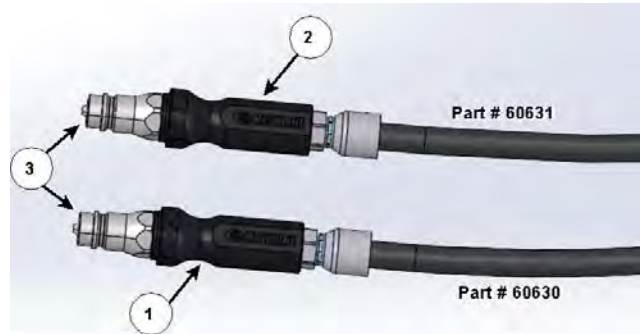

Figure 4: Connect hose grips and ends
7. Connect the hose grips and pioneer ends to the hydraulic hoses, see *Figure 4*.
- a. Connect the pressure (+) hose grip (1) to the 6X65 hydraulic hose (part# 60630).
- b. Connect the return (-) hose grip (2) to the 6X87 hydraulic hose (part# 60631).
- c. Connect a male pioneer end to each of the hose grips (3).